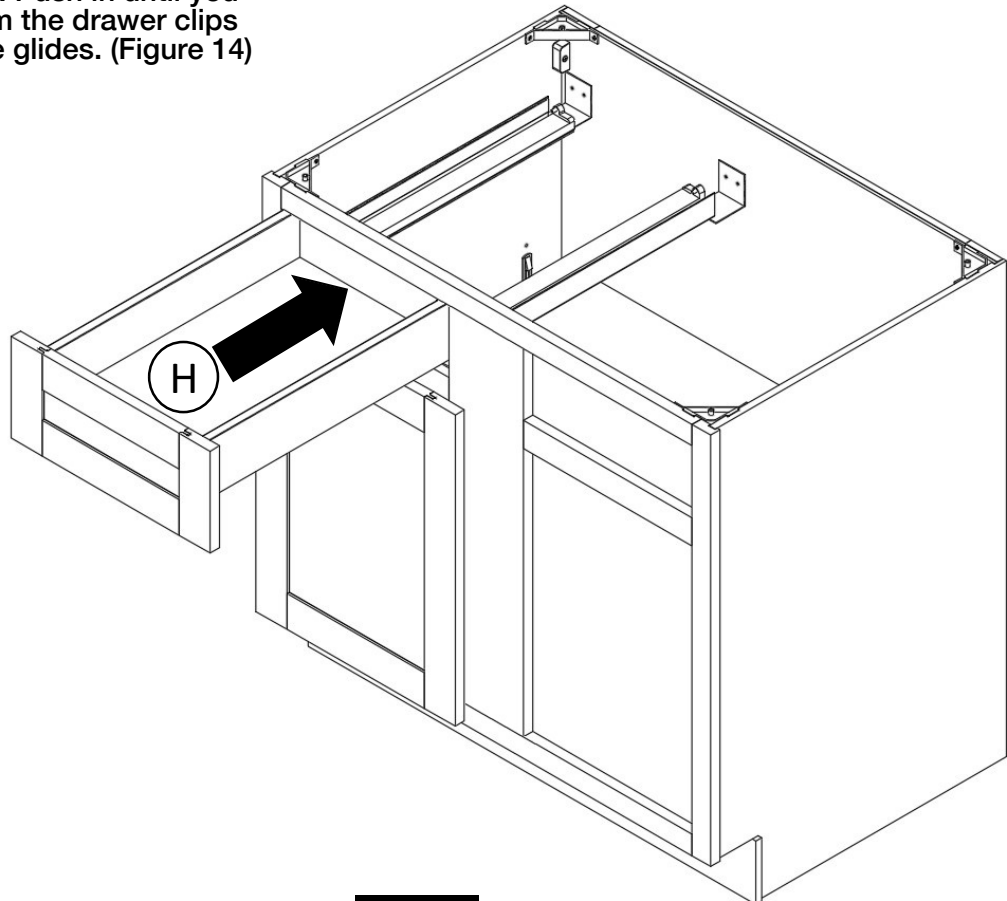

Figure 14
Insert the assembled drawer (H) onto the glides. Push in until you hear clicks from the drawer clips locking into the glides. (Figure 14)